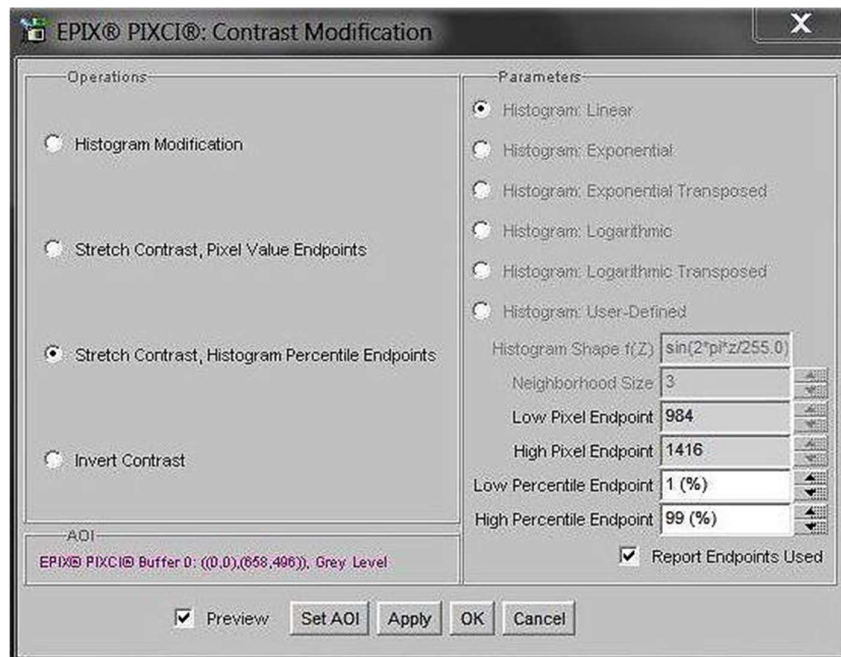

Figure 14: Stretch Contrast
2. Select “Stretch Contrast, Histogram Percentile Endpoints” and “Preview” Figure 14: Stretch Contrast.